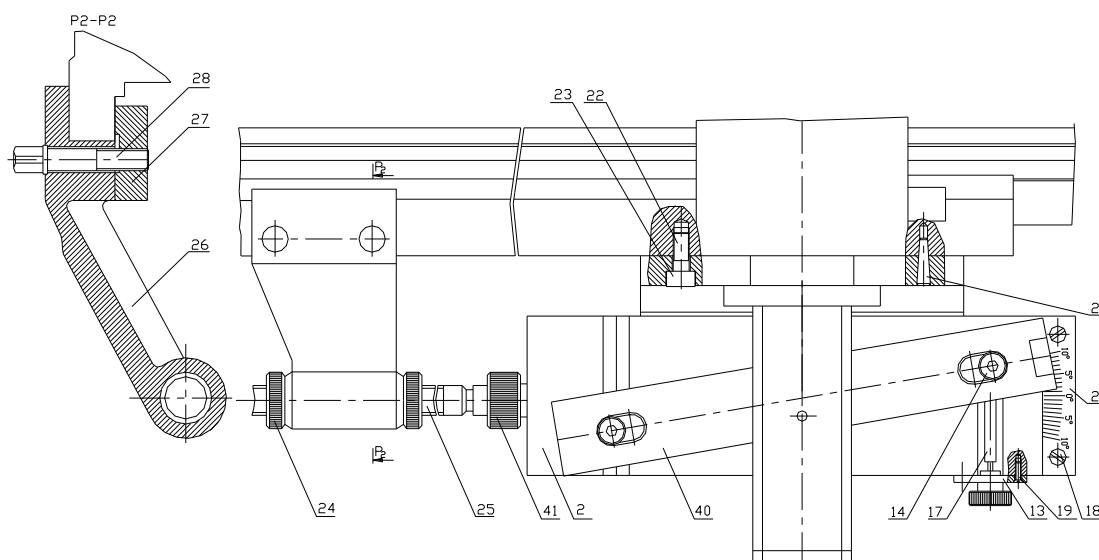
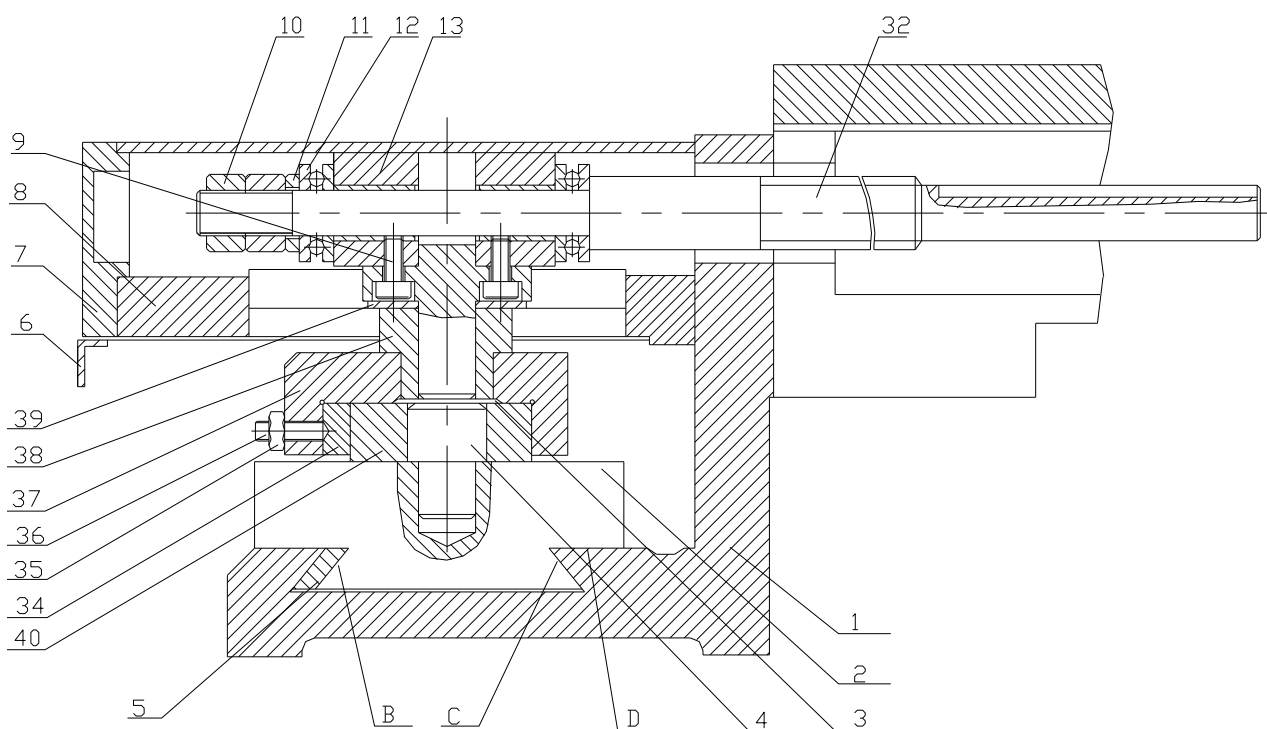

Fig.13.2.1
Fig.13.2.2
13.2. Kegeldrehlineal. (Fig.13.2.1 und Fig.13.2.2)